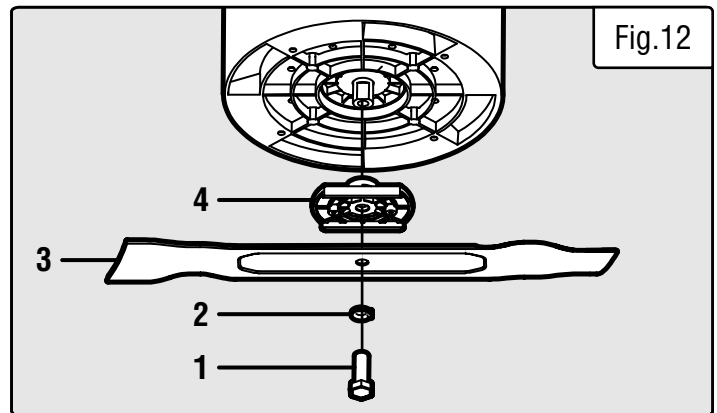

Fig.12
4. Remove the bolt (Fig. 12 - 1), washer (Fig. 12 - 2), blade (Fig. 12 - 3), and blade support (Fig. 12 - 4) from the mower body.